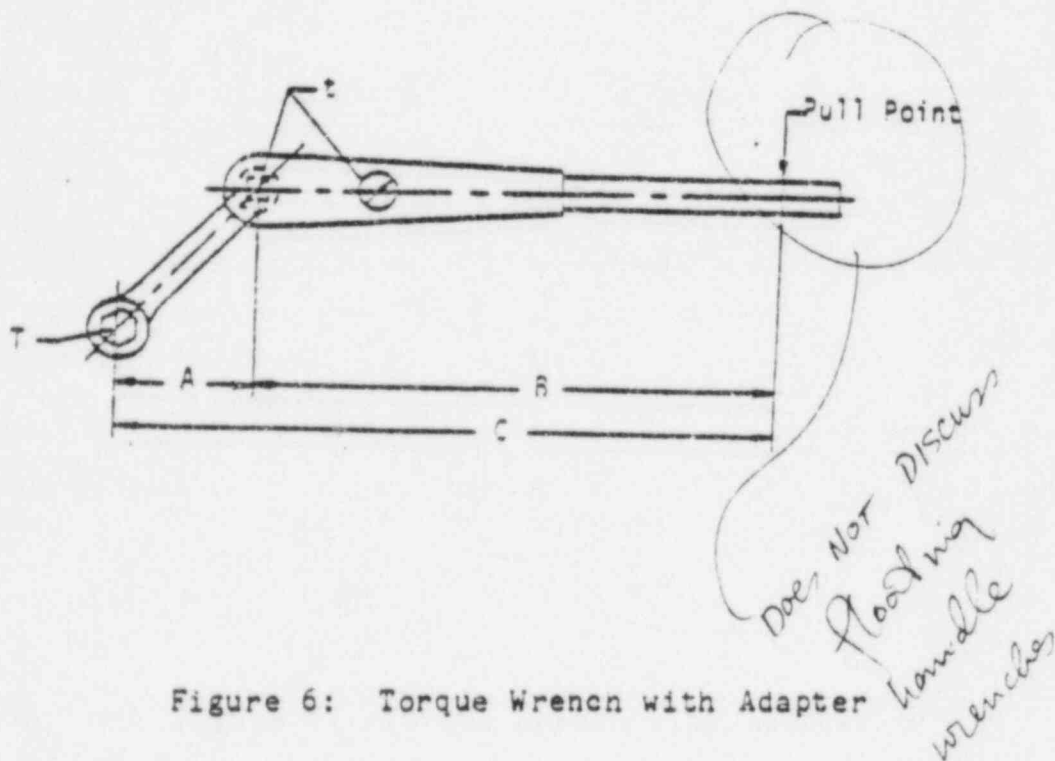

Figure 6: Torque Wrench with Adapter
- a. It is often necessary to use adapters with the torque wrench (Figure 6) in order to reach inaccessible bolts and nuts. When adapters are used, the reading of the torque wrench dial is not the actual torque exerted on the fastener. The ratio between the actual torque on the fastener and the torque shown on the wrench dial is determined by the length of the adapter and the location of the torque wrench handle where the pull is applied. It is very important that the pull on the torque wrench handle be concentrated as much as possible at distance B, as a shift in this length will cause considerable error in the effective torque at the end of the adapter.